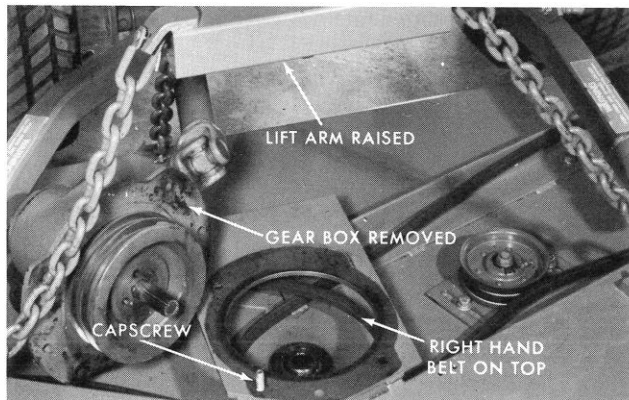

Figure 57
Install the new belts with the right hand belt uppermost, as shown in Figure 57. Reinstall the gear box, feeding the belts into the pulley grooves.
1. Remove the gear box as described in Figure 57 and the accompanying text.